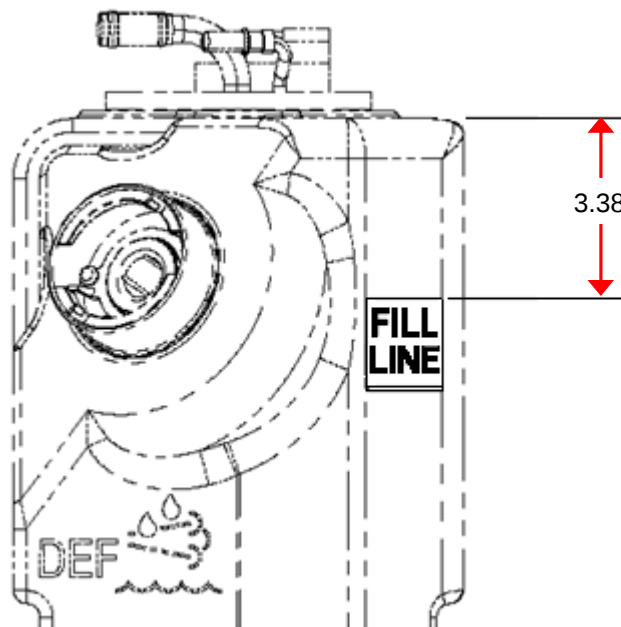

Figure 6: DEF Tank Fill Line Decal Installation
10. Ensure surfaces are clean and clear of all dirt and foreign materials prior to application of new Fill Decal p/n 545997 to maximize adhesion to surface. See Figure 6 for installation location.